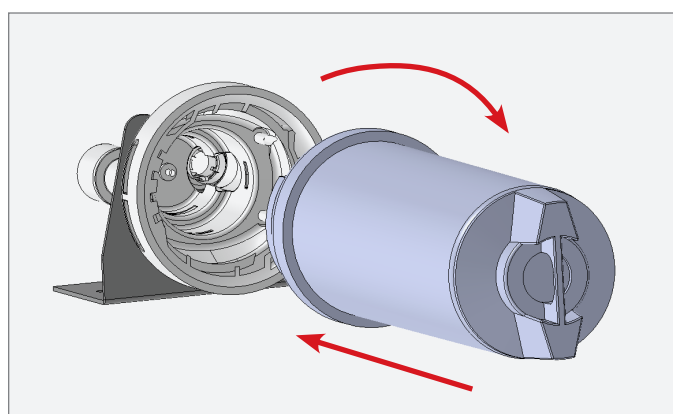

FIG. 2. Insert the replacement water filter and rotate it clockwise.
4. Insert the replacement water filter and rotate the filter clockwise. See fig. 2.